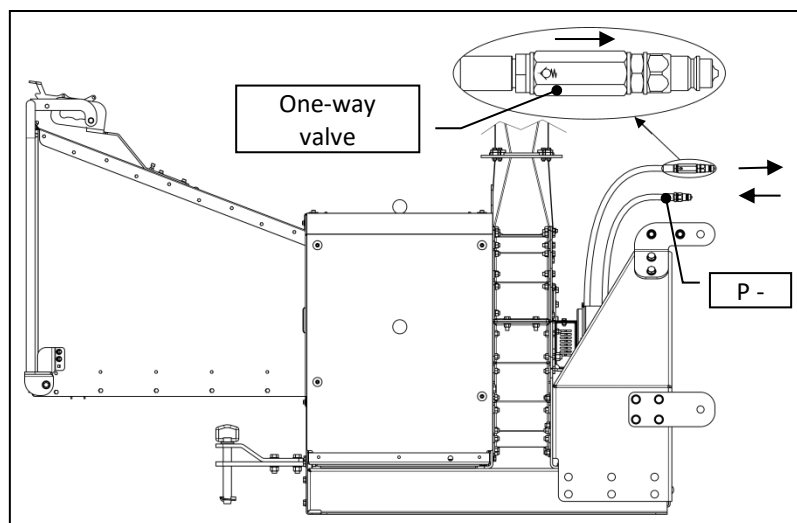

Figure 3
The chipper's two loose hydraulic hoses are inserted into the tractor's valve block. Pressure hose (P) is plugged into the tractor's pressure port and the return hose (with one-way valve) is plugged into the tractor's return port. See Figure 3.